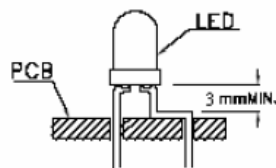

Fig. 5
(4) Lead Forming Procedures
- Maintain a minimum of the 3mm clearance between the base of LEDs lens and the first lead bend(Fig 5 and 6)